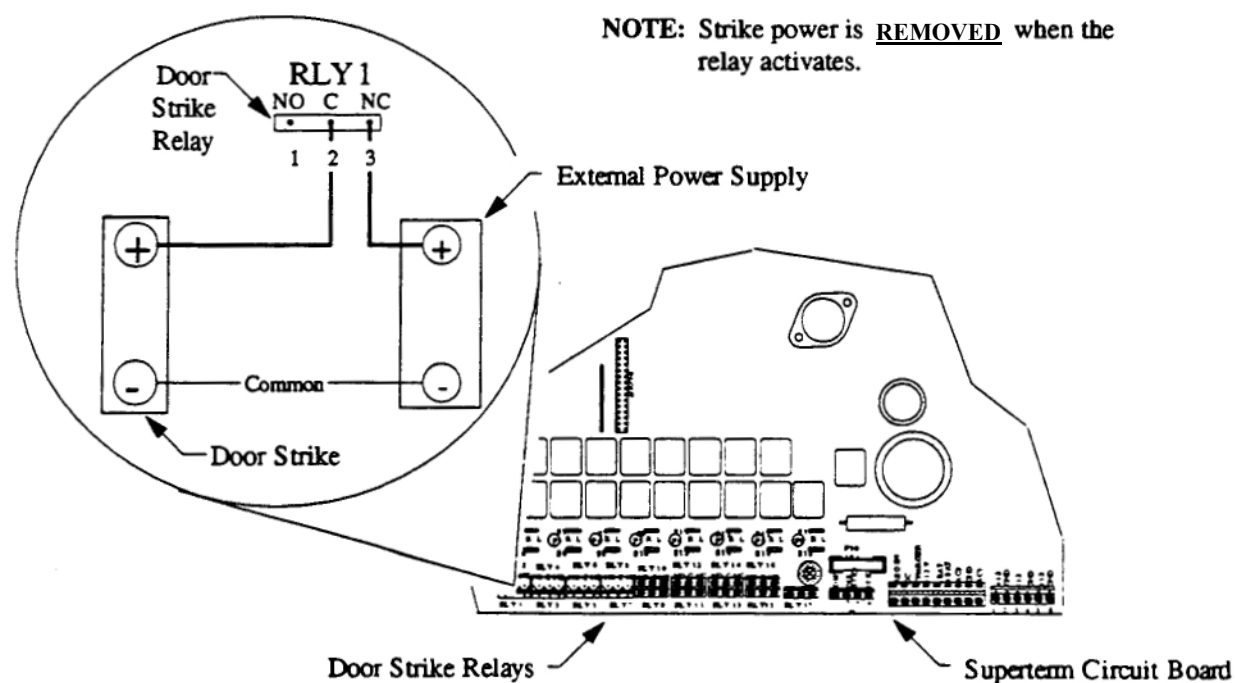

Figure 22 - **REMOTE** Power Door Strike Relay Connection - **Normally Closed (NC)** Condition
Table 21 lists the connections between the RLY#x terminal strip and the door strike for a Normally Closed (NC) relay condition (see Figure 22).